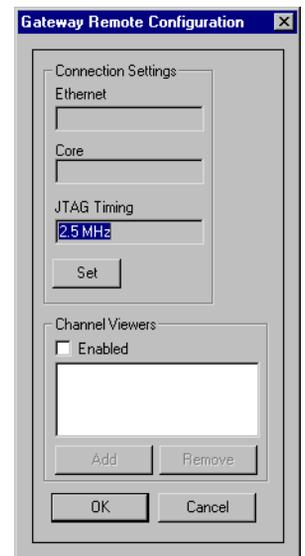

Figure 3 Gateway Remote Configuration panel
- Click **Configure...** in the Debugger Configuration screen. The Gateway Remote Configuration panel is displayed (Figure 3).